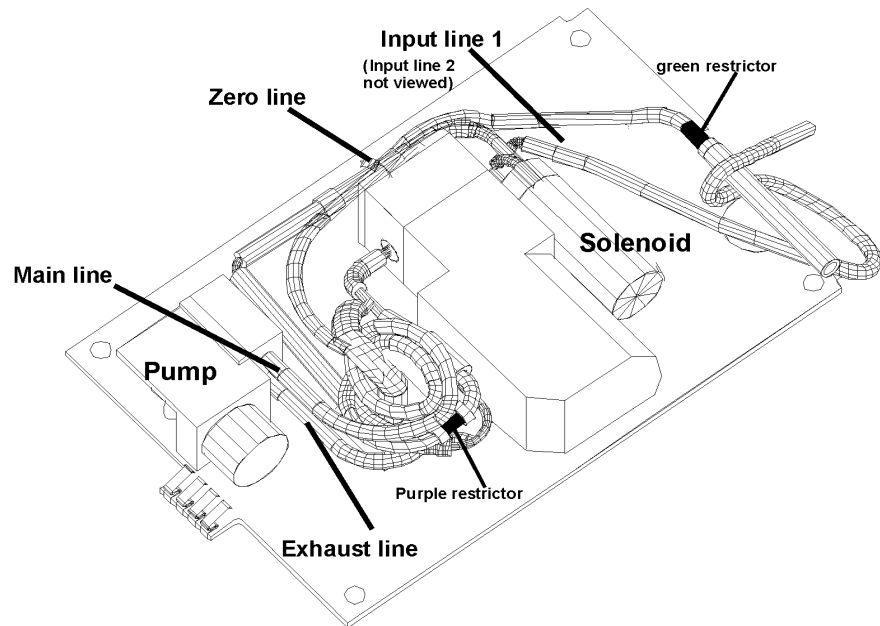

Figure 7-6: Flow System
3. Locate the two tubings, Main line and Exhaust line, connected to the pump, refer to Figure 7-6.
The Flow System has 5 lines, refer to Figure 7-6.